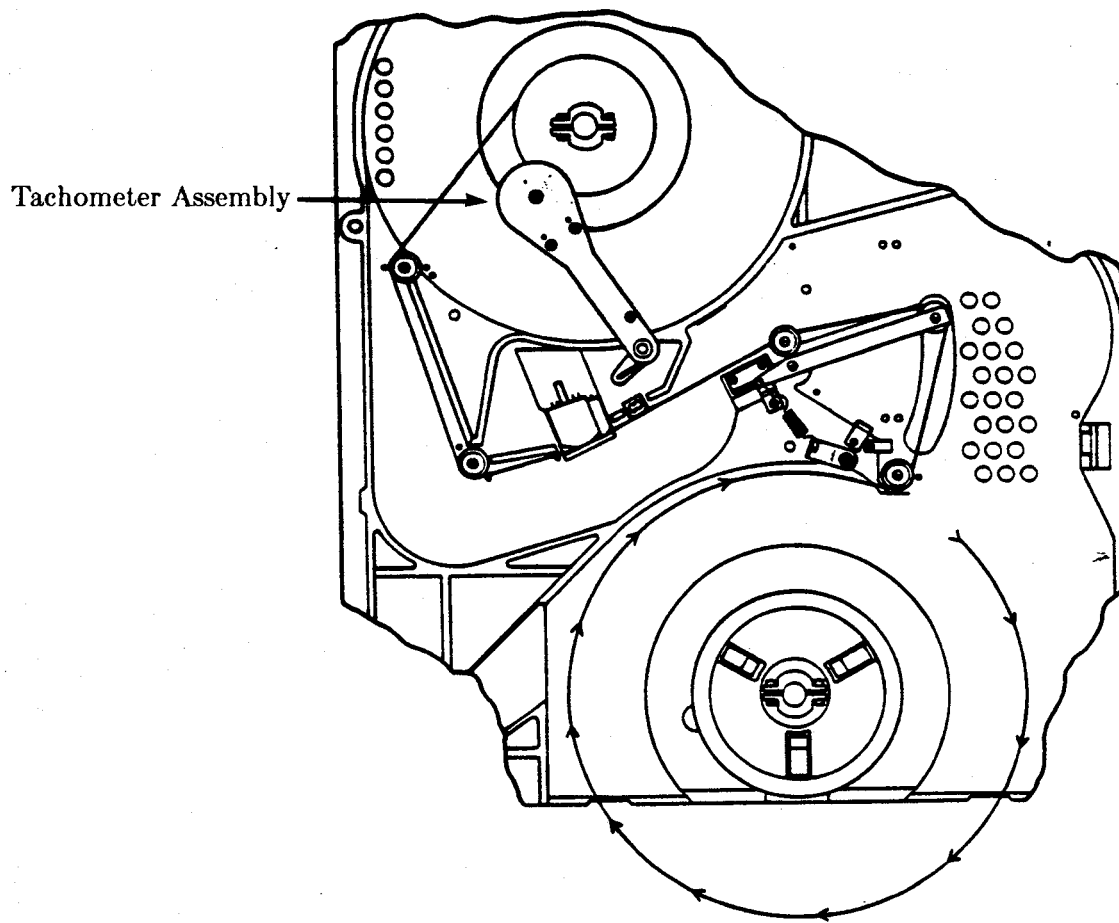

Figure 2. Tape Threading Path
- Thread the tape along the path shown in Figure 2. Carefully move the tachometer assembly away from the takeup hub, wrap tape clockwise around the takeup hub, and gently replace the tachometer assembly. Check that the tape is seated correctly on the guides and threaded properly over the head assembly.